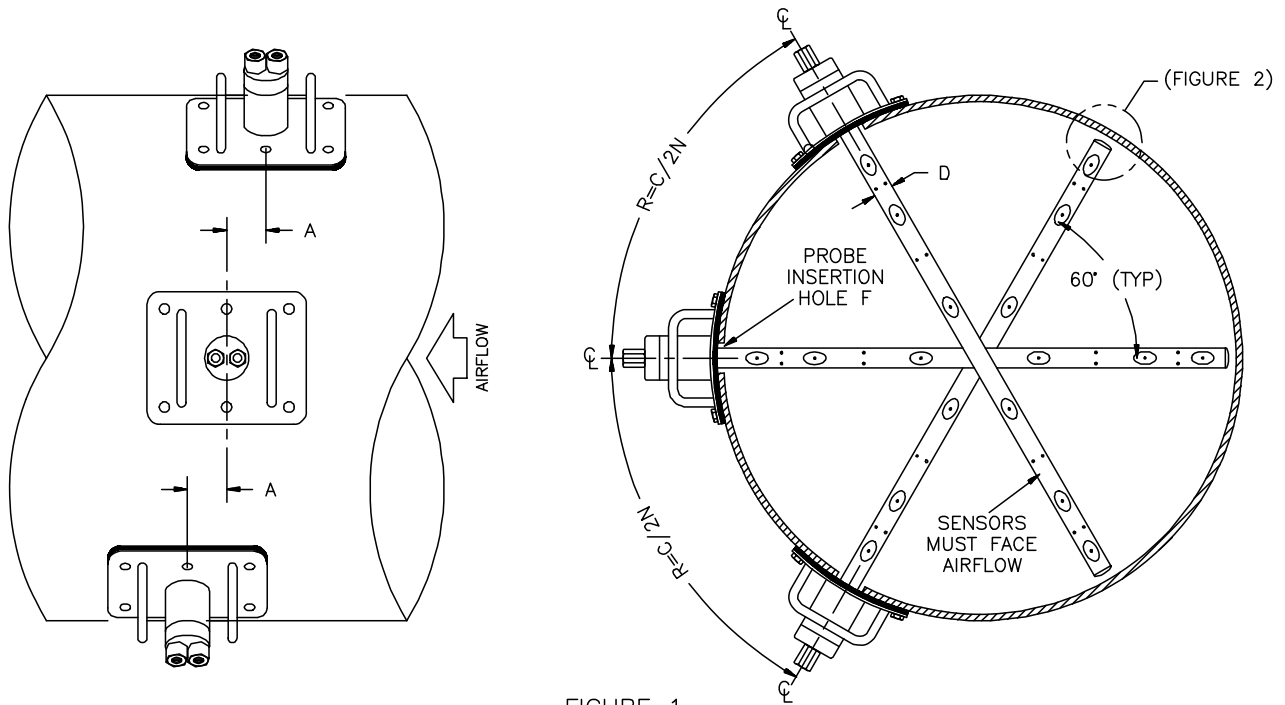
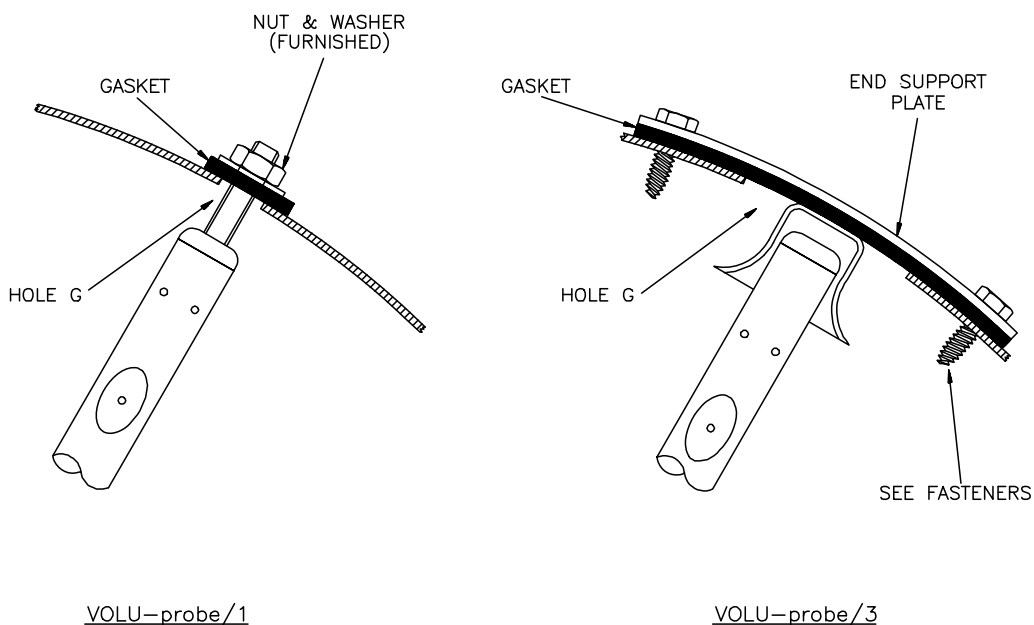

FIGURE 1
FIGURE 2
**INSTALLING VOLU-probes.** VOLU-probe insertion holes (F, Figure 1) and end support holes (G, Figure 2) must be cut in the duct on center lines shown in Figure 1. Hole sizes and locations can be obtained using the applicable VOLU-probe Dimensional Specifications (see Pages 4 and 5).
End support conditions for VOLU-probe/1 and VOLU-probe/3 are illustrated in Figure 2.